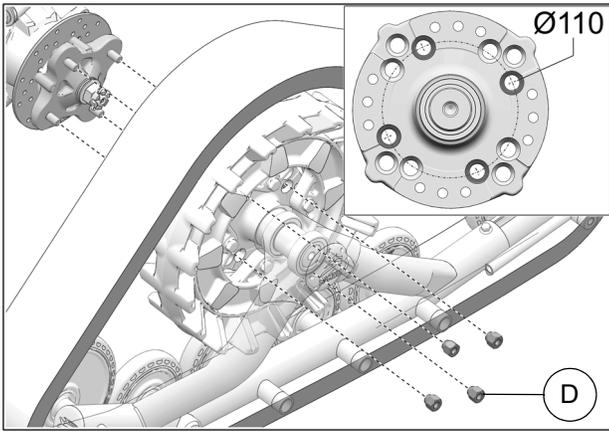

Fig. 19
7. Secure undercarriage to front hub using the lug nuts (D) provided. Use bolt circle Ø110mm. See Fig. 19